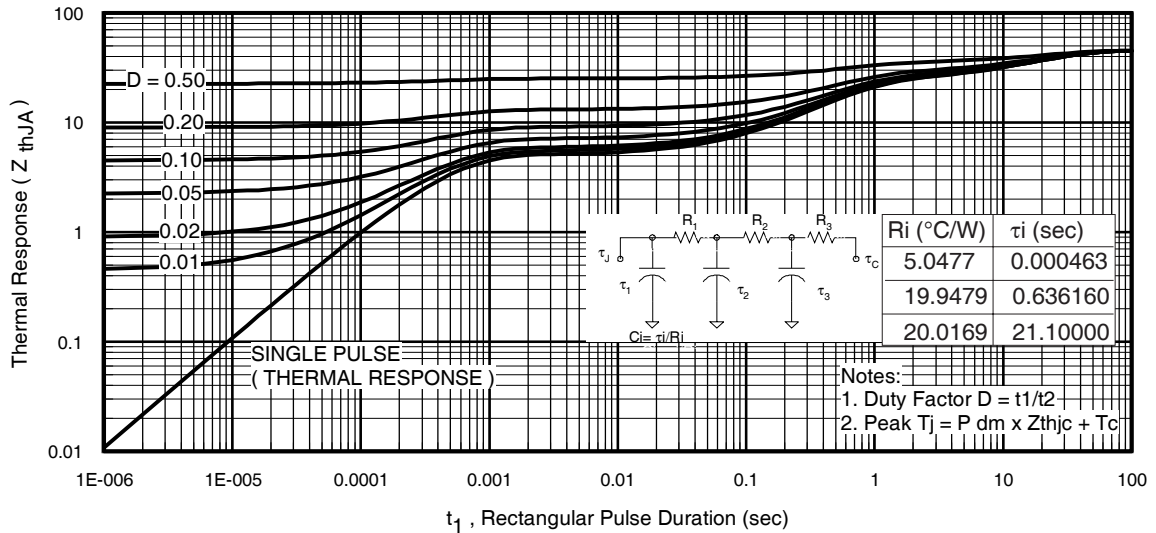

Fig 11. Maximum Effective Transient Thermal Impedance, Junction-to-Ambient
- ① Repetitive rating; pulse width limited by max. junction temperature. (See fig. 11).
- ② Limited by T_{Jmax} , starting $T_J = 25^\circ\text{C}$, $L = 2.8mH$
$Z_{thJC}(D, t_{av})$ = Transient thermal resistance, see figure 11)